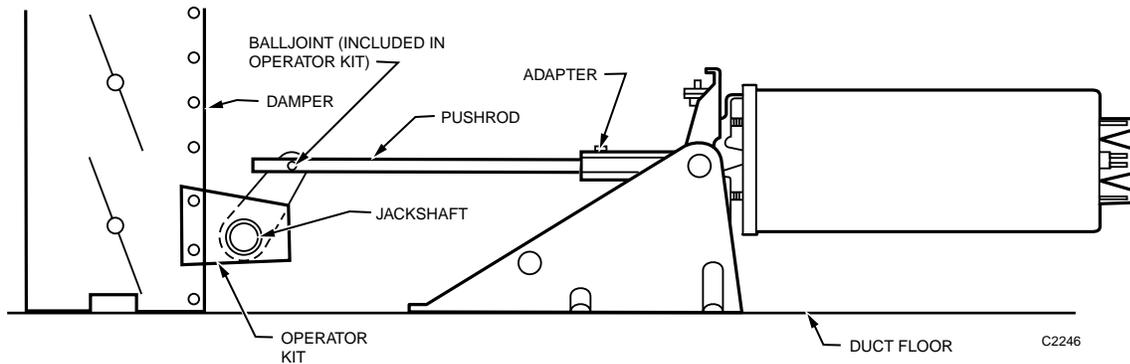

Fig. 27. Internal Mounting on Duct Floor.
2. Mount actuator inside duct (Fig. 27). Use balljoint included in operator kit.